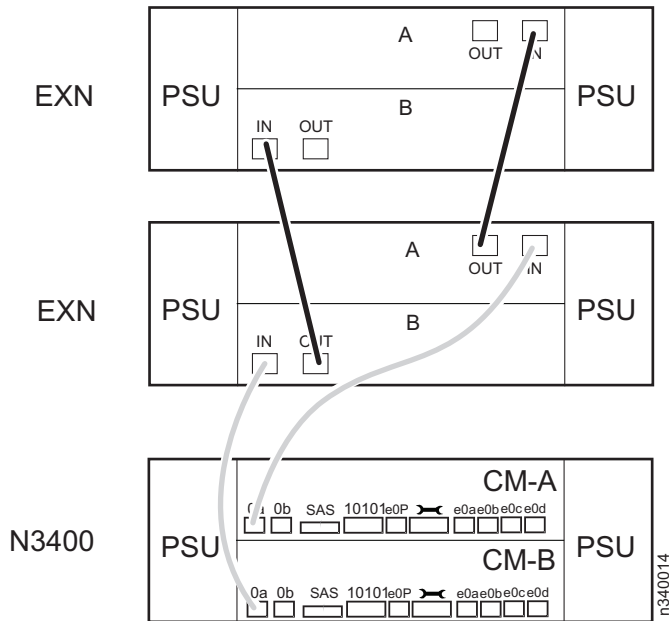

Figure 11. Cabling additional storage expansion units
- Figure 11 shows storage system connections to EXN2000/EXN4000 expansion units. On EXN1000 expansion units, the positions of the In and Out ports are reversed from those of the EXN2000/EXN4000.
- Figure 11 shows only the first two storage expansion units in a loop. The number of storage expansion units per loop might be different for your configuration.
3. For any additional storage expansion units in a loop, connect the module A (IOM A) Out port to the next storage expansion unit's module A In port, as shown in Figure 11. Repeat for module B (IOM B).